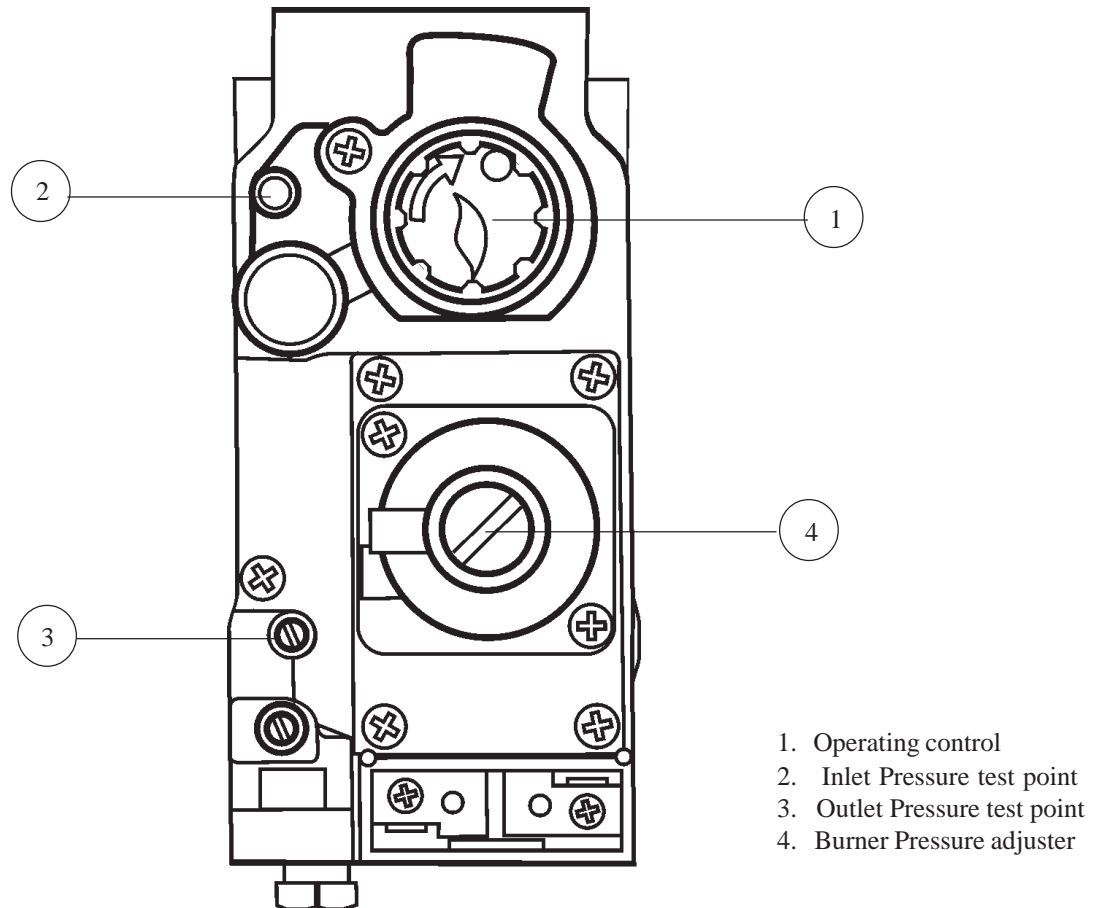

Fig. 4
6.3.2 On the Multifunctional Control, remove the Inlet Pressure test point cover, and fit a pressure test gauge (refer fig. 4).
6.3.4 Referring to Fig. 4, press and hold the OPERATING CONTROL, and whilst observing the Pilot Burner, repeatedly press the Piezo igniter button until the Pilot Burner ignites.
6.4.1 Referring to Table 4 and Fig. 4 below, ensure that the pressure test gauge indicates correct pressure, adjusting the supply pressure if required.